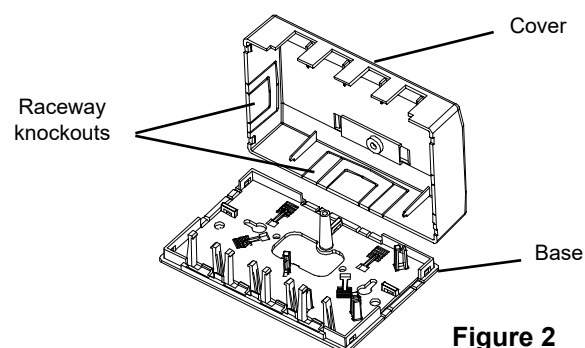

Figure 2
2. 4 Port and 6 Port Surface Boxes are compatible with MT6, MT7 and MT8 Raceway. If using Raceway, cut the edges of the appropriate knockout with a utility knife and remove. Align Raceway with knockout opening. See Figure 2.